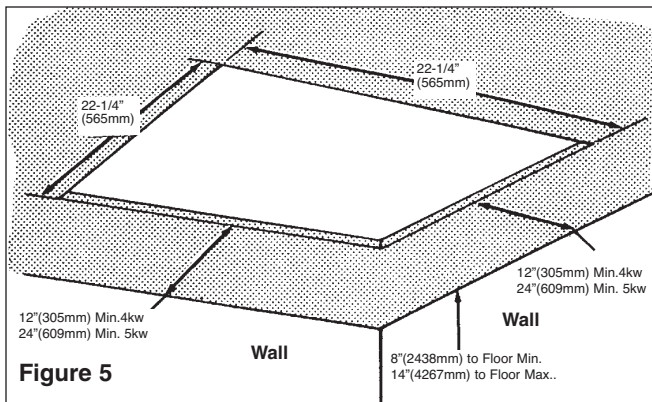

Figure 5
2. Cut a 22-1/4" x 22-1/4" (565mm x 565mm) mounting hole in the ceiling for the recess mounting box (Figure 5).